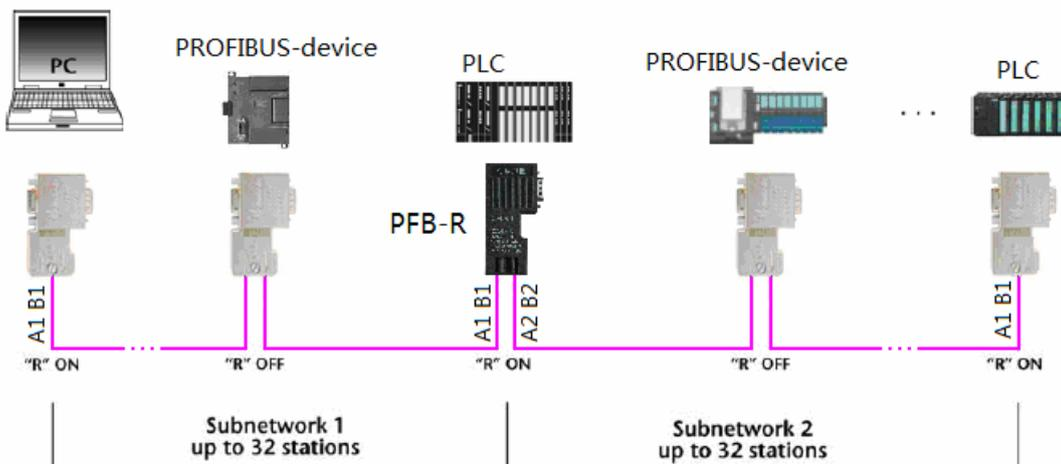

Fig. 6-1 Mini PROFIBUS Repeater PFB-R prolongs the communication distance and increases the stations.
1. Use Mini PROFIBUS Repeater, PFB-R, to prolong the communication distance and increase stations. As shown in Fig. 6-1, the repeater separates the bus into Segment 1 and Segment 2. Each cable's length fits the transmission speed of PROFIBUS. Each segment allows no more than 32 stations. Attention, the switch of the terminal resistor has to be moved to "ON".